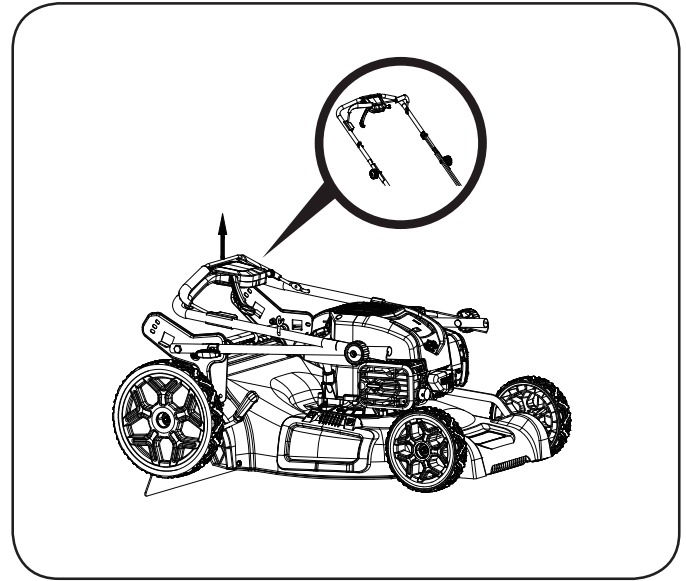

Figure 2
1. Pull the folded handle assembly up to the working position at first (Figure 2).